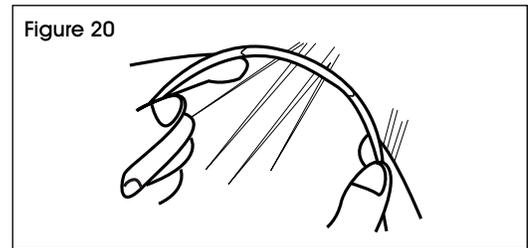

Figure 20
2. Insert the other half of the safety cage into the tubular joints and twist together until mounting struts on both halves are parallel. (See Figure 20)